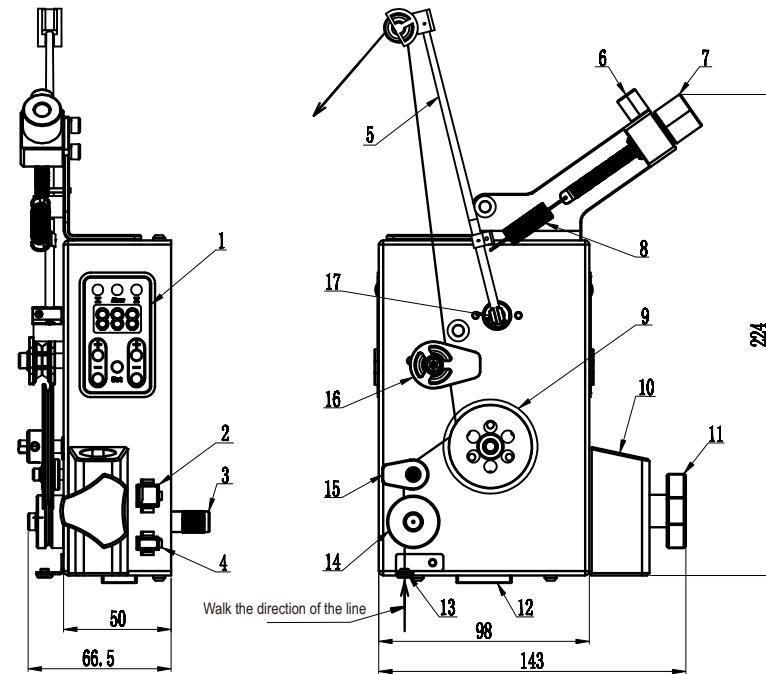

Figure 1
Step1: Route the wire refers to the fig1 and use the wool felt regulator knob to adjust the tightness to the wire (clockwise turning to be tight, anticlockwise turning to be loose).